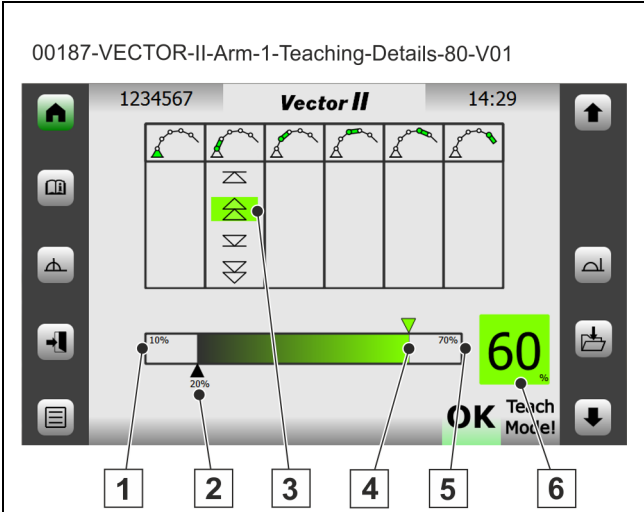

Fig. 109 Example: Teaching settings
The (pos. 3+5) (**Fig. 109**) show the changed value.